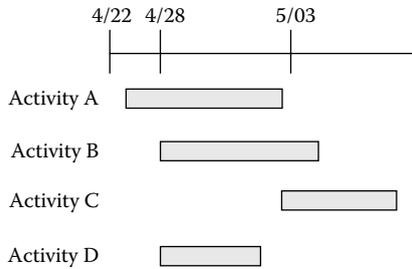
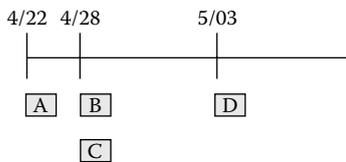

Figure 15.1 A Gantt chart.
Figure 15.2 Each line contains multiple activities.
This Gantt chart in Figure 15.1 shows four activities (A, B, C, D) as bars arranged according to their early start dates (4/22, 4/28, 5/03). The length of the bars (activities) varies according to the duration of the activity, and each line of the chart contains only one activity (as a bar). This Gantt chart is very common as an output of PC software.
There are two differences between the Gantt chart in Figure 15.1 and the chart you will be building: (1) the length of the bars will not vary, and (2) each line can contain multiple activities (Post-Its®) (Figure 15.2).